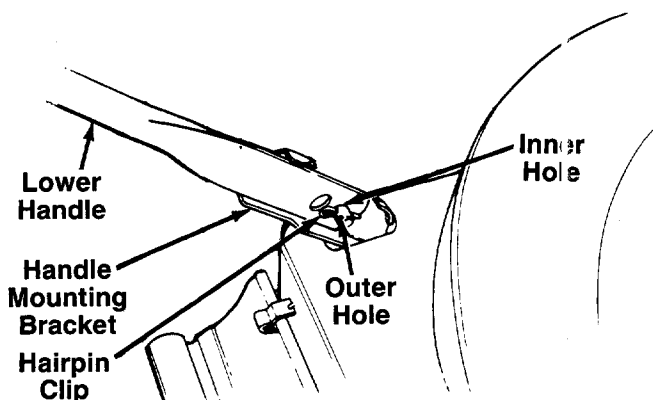

FIGURE 2.
2. Using a pair of pliers, squeeze one leg of the mower handle against the handle mounting bracket. Insert the hairpin clip into the **inner** hole on the weld pin. See figure 2. Repeat on other side.